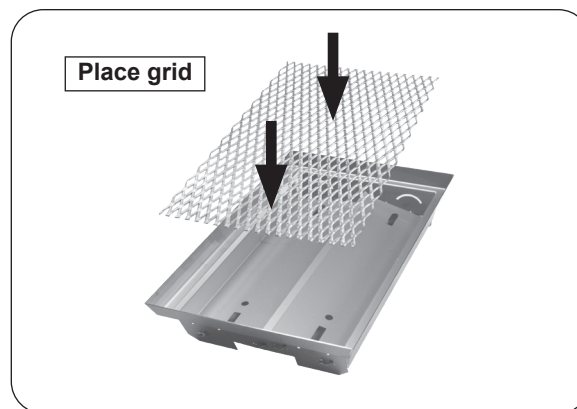

Fig. 40-2 Place grid inside basket
1. Place grid inside the basket frame (see Fig. 40-2).